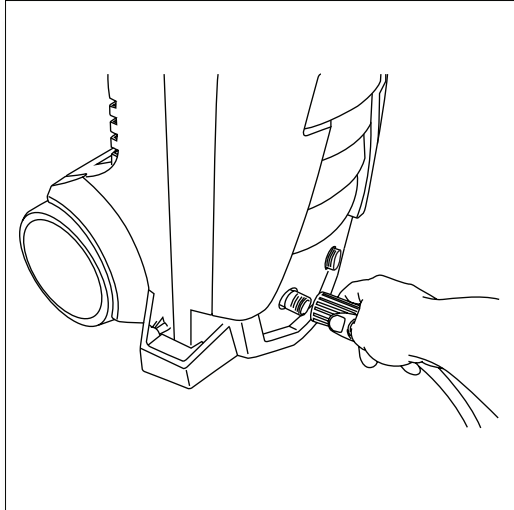

Fig. 4
- Screw the high pressure hose (clockwise) on the left of the unit at the bottom (Fig. 4). Pull back the collar and insert o-ring post into the water outlet far enough so the collar can thread onto the outlet threads until hand tight. Do not use pliers or vice grips to tighten. If it takes fewer than six or so turns you have not properly tightened the high pressure hose fitting. It is easier to position the power washer in front of you so to ensure that the threads are started correctly. Failure to properly tighten the high pressure hose will result in the hose slipping or popping off immediately upon turning the unit on. Do not worry about damage if this occurs - just reinstall and take extra care at screwing on the high pressure hose fitting.